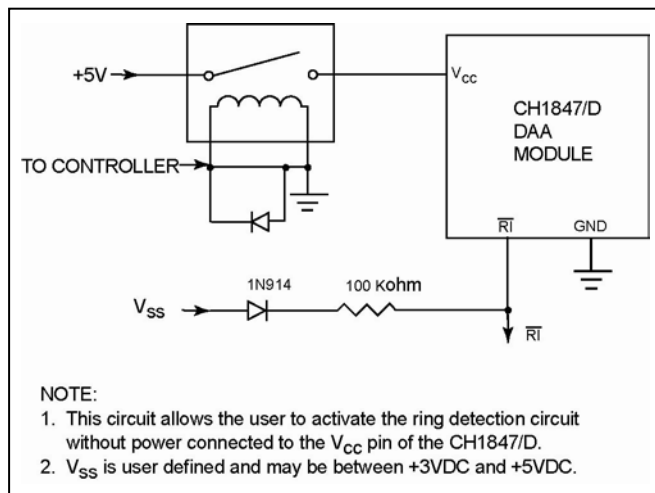

Figure 3. Low Power Ring Detection Circuit.
Ring Detection. To announce an incoming call, the telephone company's central office (CO) applies an AC ringing signal to the PSTN line. The CH1847/D is designed to detect this signal. The CH1847/D uses the AC ring signal to produce a square wave pulse train output at the CH1847/D RI pin. This pulse train is the same frequency as the incoming AC ring signal and is typically 20 Hz. Figure 3 shows external filtering which may be employed to provide an envelope indication of the ring signal using the CH1847/D RI output. The ring detection circuit in the CH1847/D family is designed to deter false indications caused by pulse dialing or noise on the PSTN line.
connected to power. This can be handy for designs in which power consumption is of concern. When circuited in this manner, there is virtually no current draw until a ring signal is present. Refer to Figure 3.
RCV. The CH1847/D derives the incoming signal and presents it at RCV with respect to GND. The user must AC couple RCV through a 0.1µF capacitor as indicated in Figure 3.